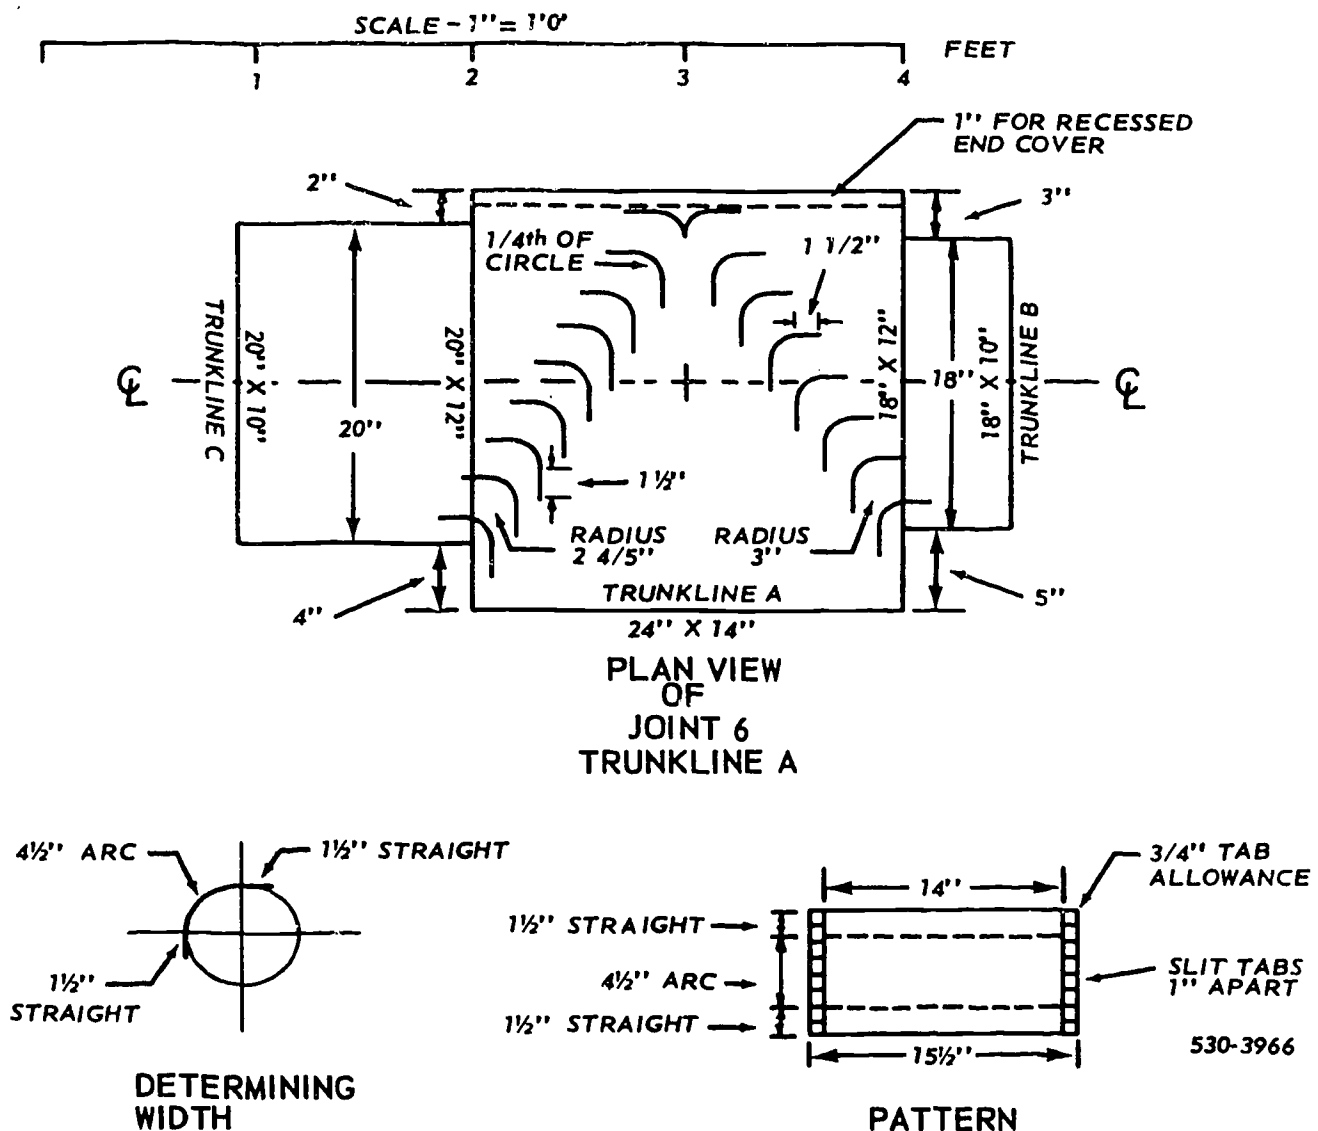

Figure 4-16. Pattern for turn vanes.
**Turn Vane Patterns.** In an earlier chapter of this text, you learned how to determine the width, length, spacing, and number of turn vanes to achieve maximum airflow through a 90° rectangular elbow. You must have this information before you make the pattern. Figure 4-16 is an enlarged plan view of joint 6 of trunkline A, which contains two sets of turn vanes.
The next step is to determine how many turn vanes you need. Divide the  $2\frac{4}{5}$  (2.8) inch spacing into the length of the turn vane rows. As you can see in figure 4-16, the row for trunkline B has eight turn vanes and the row for trunkline C has nine turn vanes. In both computations, the actual number of turn vanes is a mixed number that has been rounded off to the nearest
whole number. In this step you also find that the curved part of the turn vane is  $4\frac{1}{2}$  inches and each straight is  $1\frac{1}{2}$  inches. Thus, the dimensions for each turn vane are  $7\frac{1}{4}$ " x 14". (If necessary, refer to fig. 3-6 to refresh your memory concerning dimensions of turn vanes.) When you add the  $\frac{3}{4}$ -inch tab allowance to each end of the pattern, the total dimensions become  $7\frac{1}{2}$ " x  $15\frac{1}{2}$ ", as shown in figure 4-16. Notice also that the  $\frac{3}{4}$ -inch tab allowance has been marked to show the slits, which are approximately 1 inch apart. During installation, these tabs are bent 90° and riveted to the top and bottom of the duct joint.
The 3/4-inch slits in the pattern for the turn vane shown in figure 4-16 are spaced approximately 1 inch apart so that the tabs can be bent 90° for fastening to the duct. When you cut slits like these, be careful to make all of them exactly 3/4-inch long so that the tabs can be bent properly.
**Turn vanes.** Seventeen turn vanes for joint 6 in trunkline A are to be made from the pattern shown in figure 4-16. After you have done the cutting out and slitting, you bend each turn vane to a radius of 2.8 inches with 1½-inch straight edges. Then you bend the alternate ¾" x 1.07" tabs for 90° so that you can fasten the turn vanes inside the duct joint somewhat like the splitters shown in figure 3-5. Rivet or spot weld each turn vane to the top and bottom of joint 6.